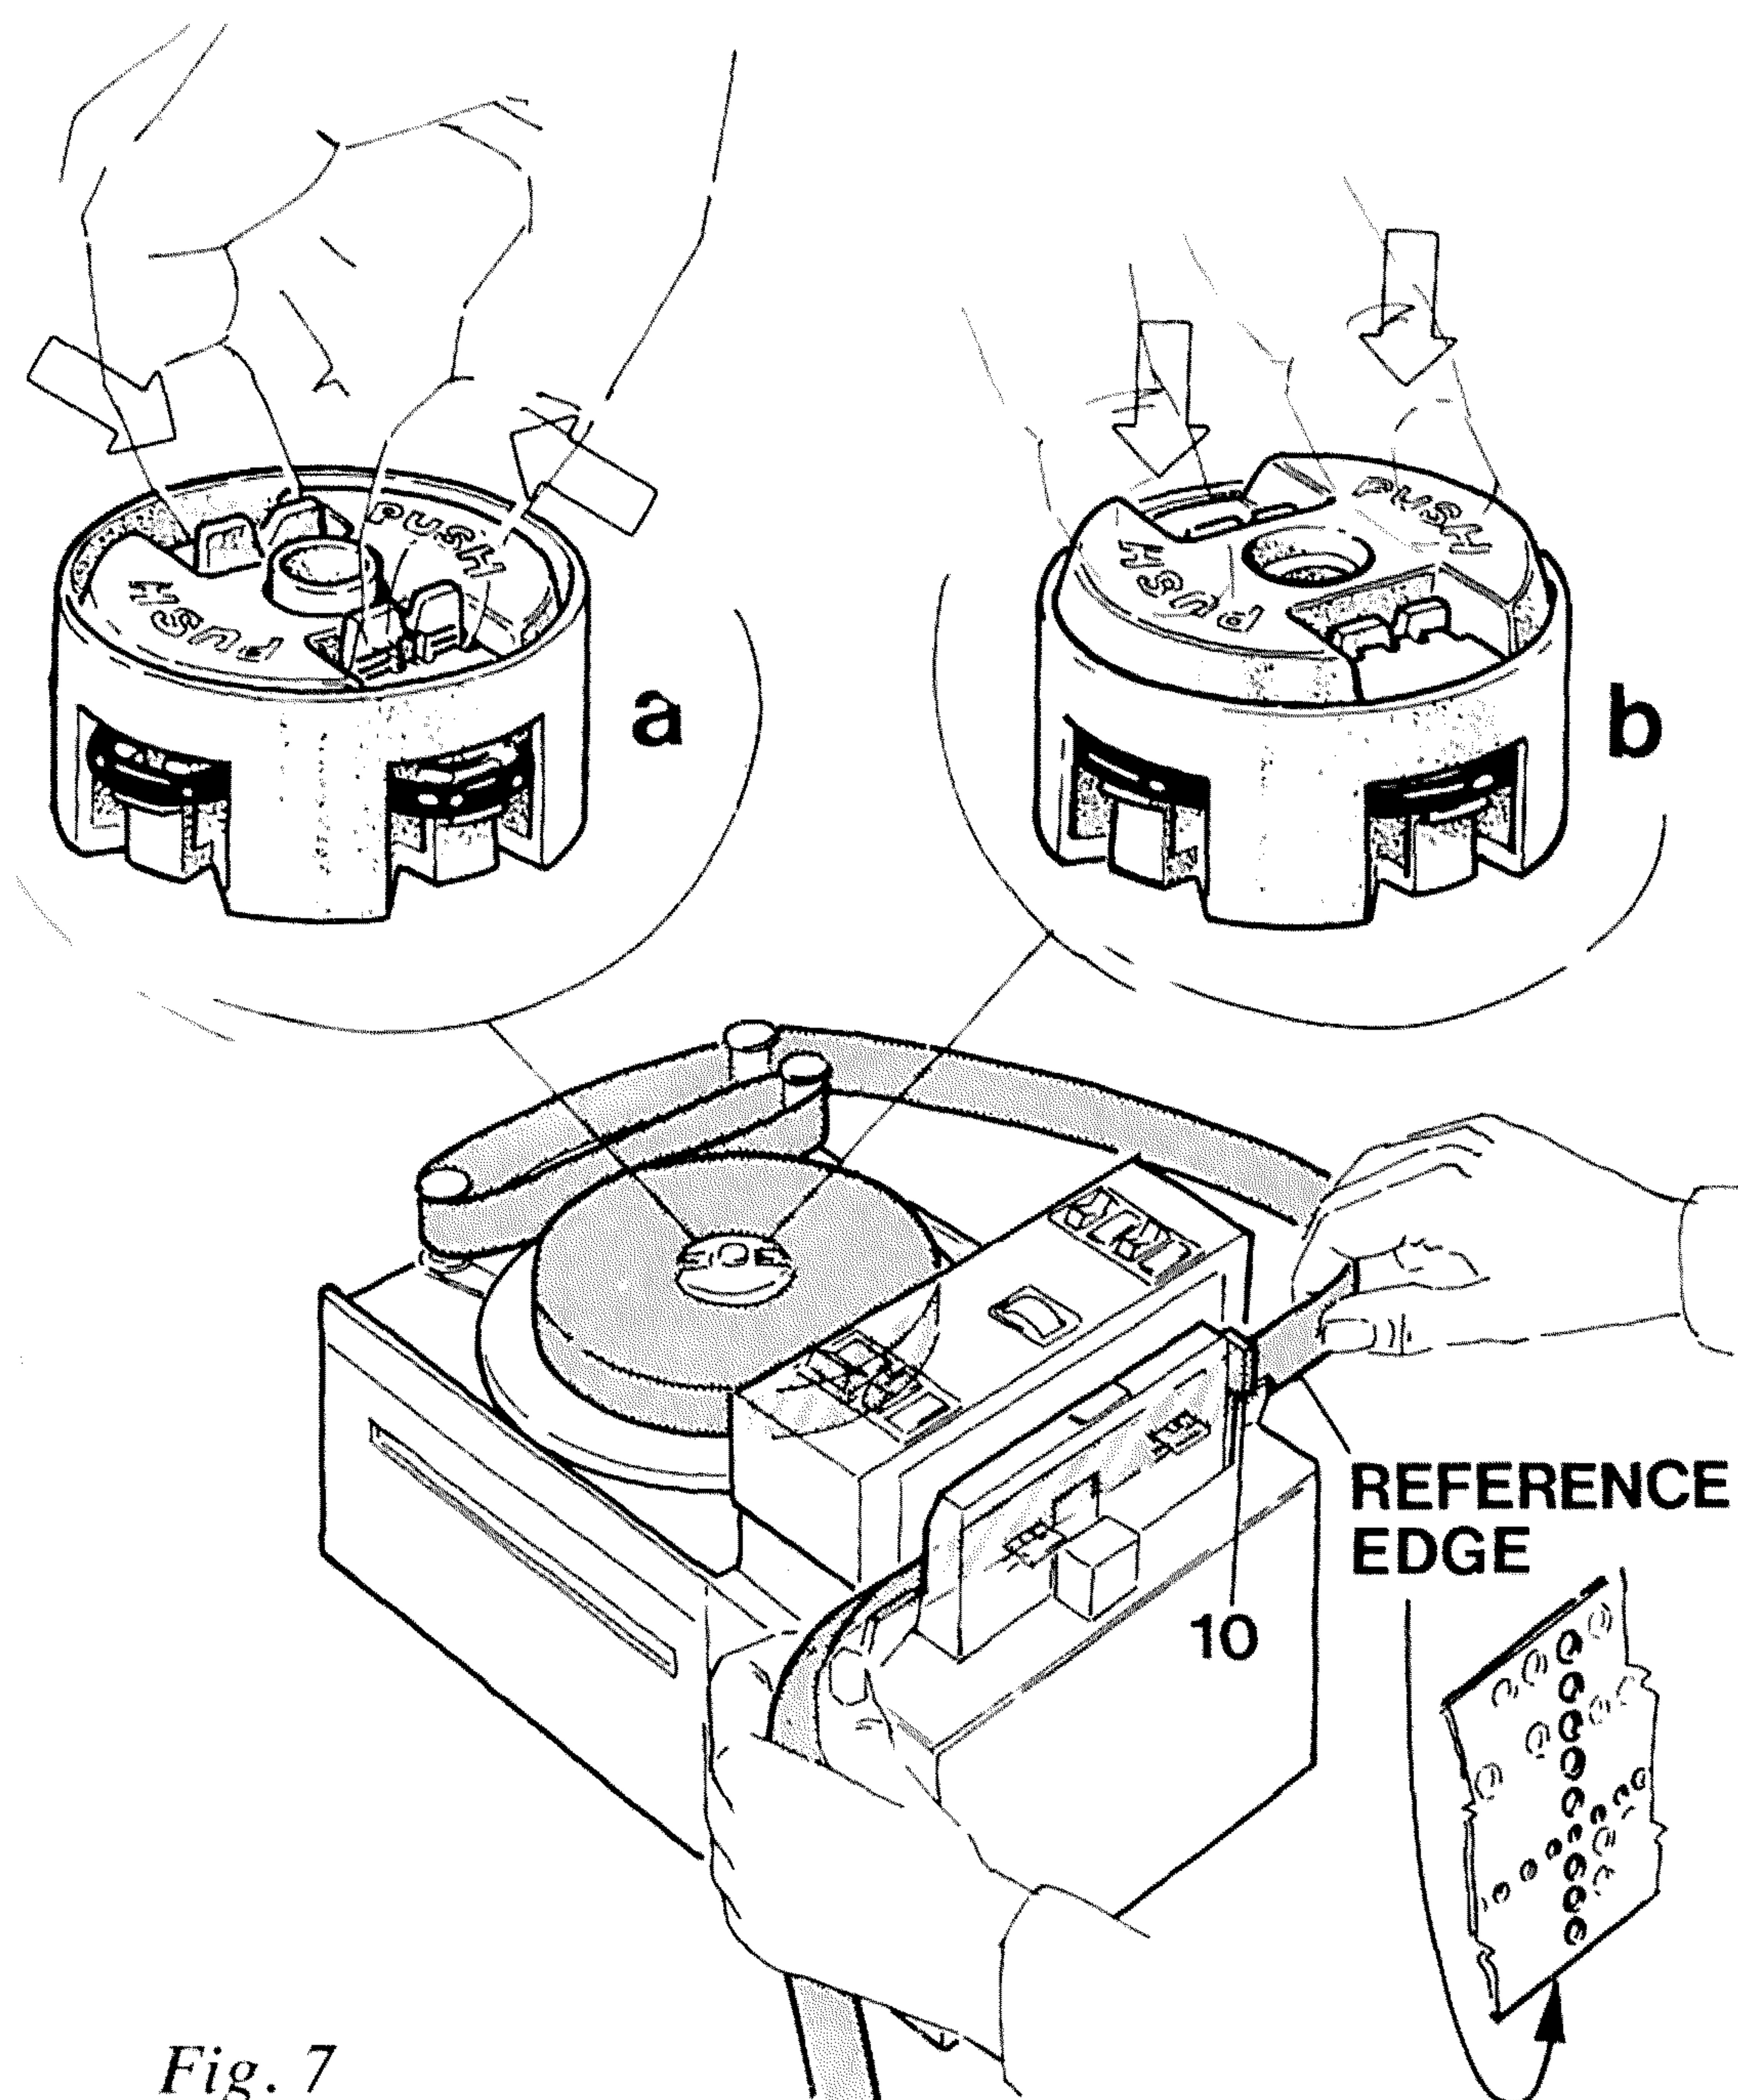

Fig. 7
- Thread the tape around tape guide rollers 8, 7, and 9 as shown in Fig. 7.